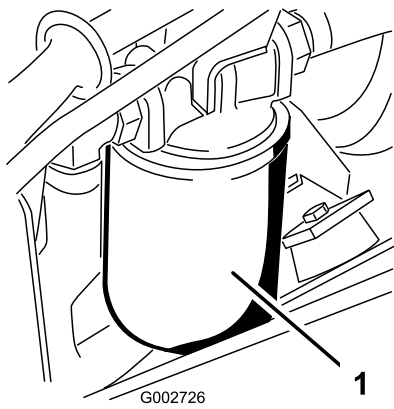

Figure 42
3. Place a drain pan under the hydraulic filter, which is located on the left side of the machine (Figure 42).